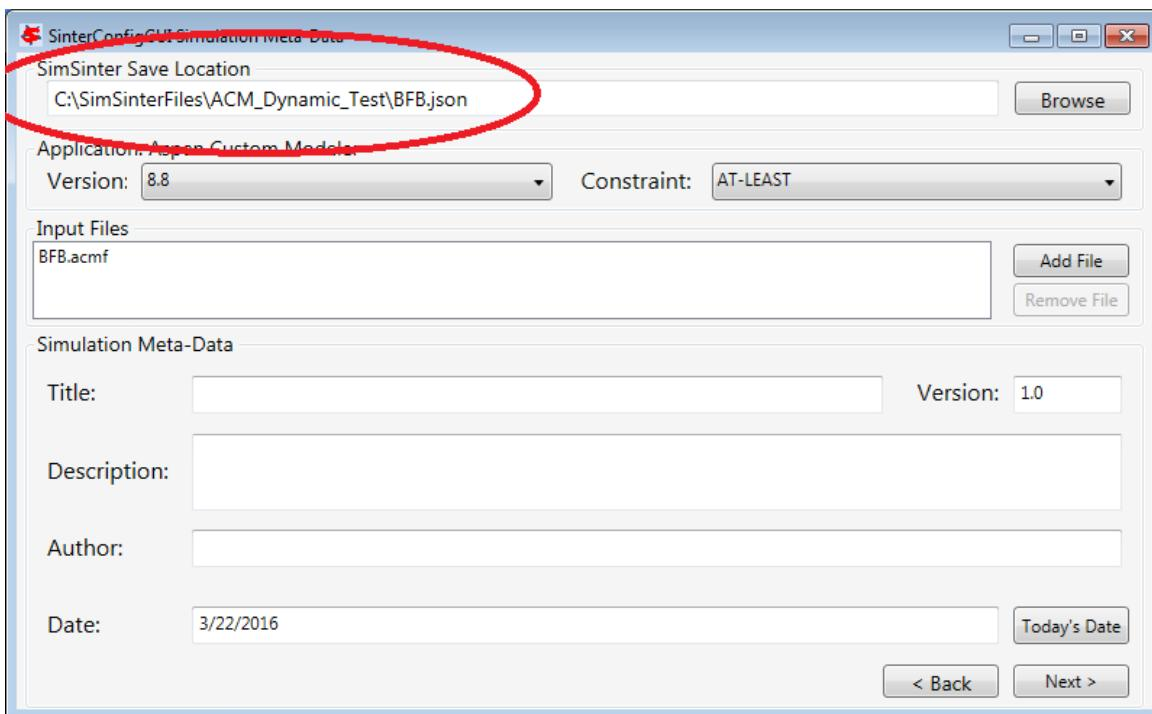

Figure 39: SimSinter Save Location.
4. The SinterConfigGUI Simulation Meta-Data window displays as shown in Figure 39. And ACM has started up in the background. This is so the user can observe things about the simulation in question as they work on the configuration file. The first and most important piece of meta-data is the “SimSinter Save Location” at the top of the window. This is where the Sinter configuration file is saved. The system suggests a file location and name. SimSinter automatically saves changes to this file. If the built in test files are being used for this tutorial, it is recommend that the name of the save file be changed before proceeding to avoid overwriting the configuration that came with the installation.